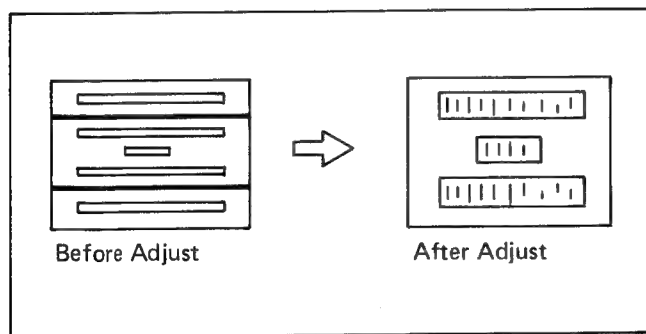

Fig. 44
2. Adjust the vertical amplitude control VR620 as shown in Fig. 44.